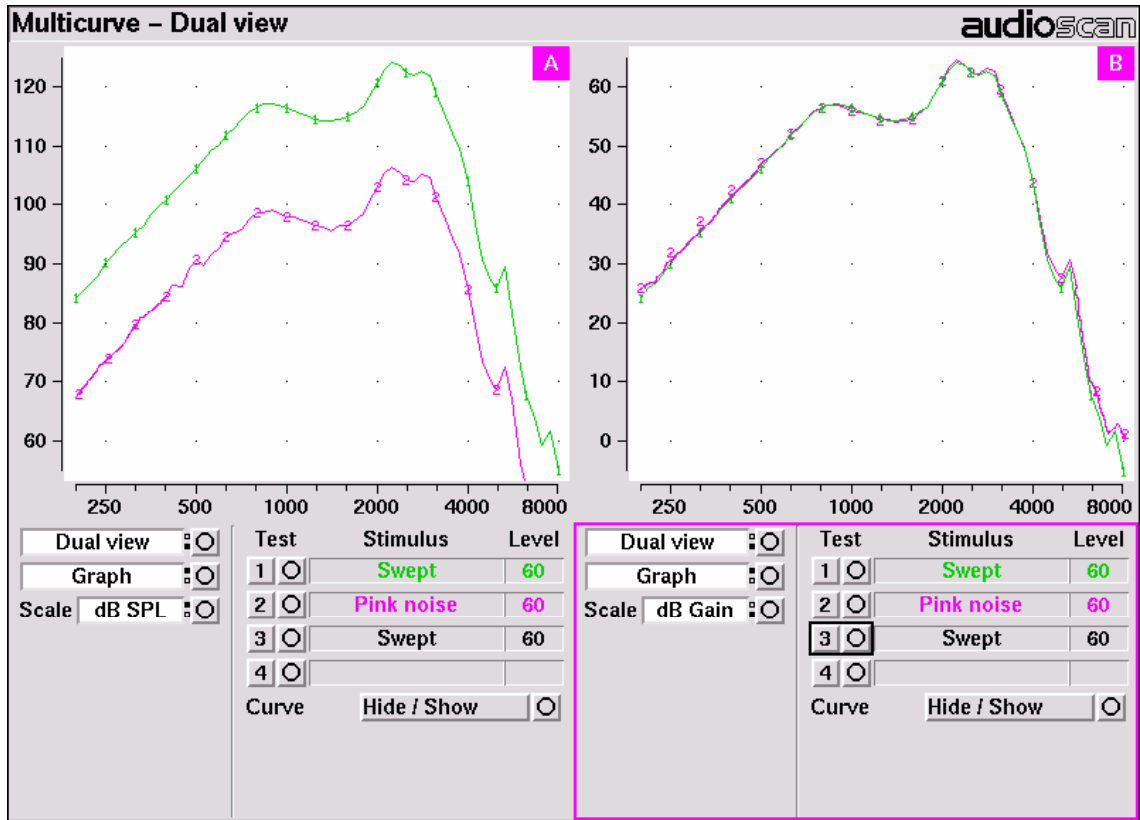

Figure 5: Output (left) and Gain (right) curves for a linear hearing aid, generated using a swept tone (1) and pink noise analyzed in 1/12 octave bands (2).
For a linear hearing aid, a pink noise stimulus will result in a response curve that has the same shape as one obtained using a swept pure tone. However, it must be remembered that, while a swept tone has the same band SPL as overall SPL, the band SPL for a noise signal is significantly lower than the overall SPL. Consequently, for a linear aid, output curves obtained using 1/12 octave analysis will be about 18 dB lower than the output curves obtained using a swept tone at the same overall SPL. As long as the hearing aid is linear, the gain obtained will be the same for both signals. Figure 5 shows output (A) and gain (B) for a linear hearing aid, obtained using a swept tone (1) and pink noise (2) with a 60 dB overall SPL.